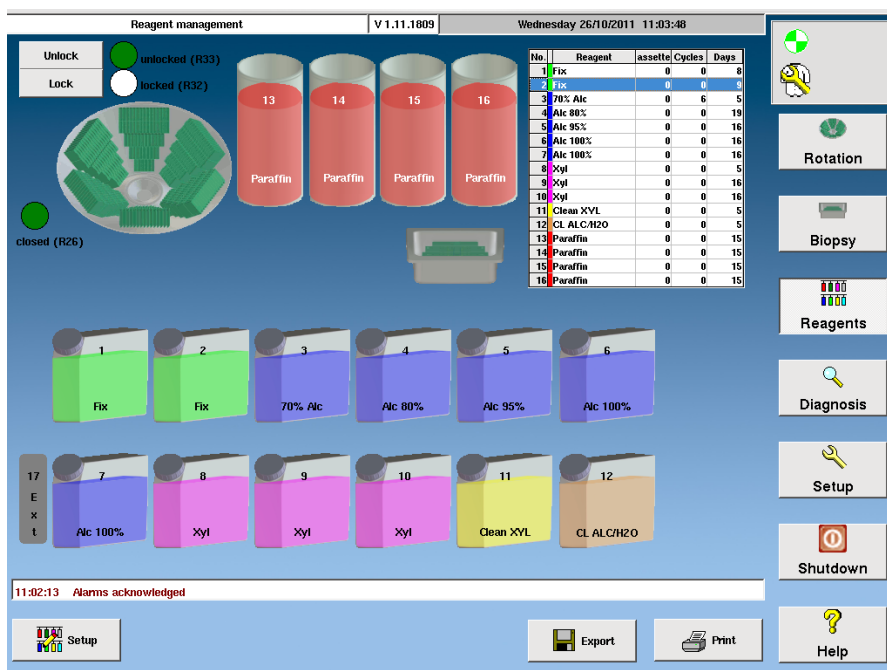

Figure 28. The Reagent management screen.
1. Select **Reagents** on the standby screen. The Reagent management screen appears (see Fig. 28).